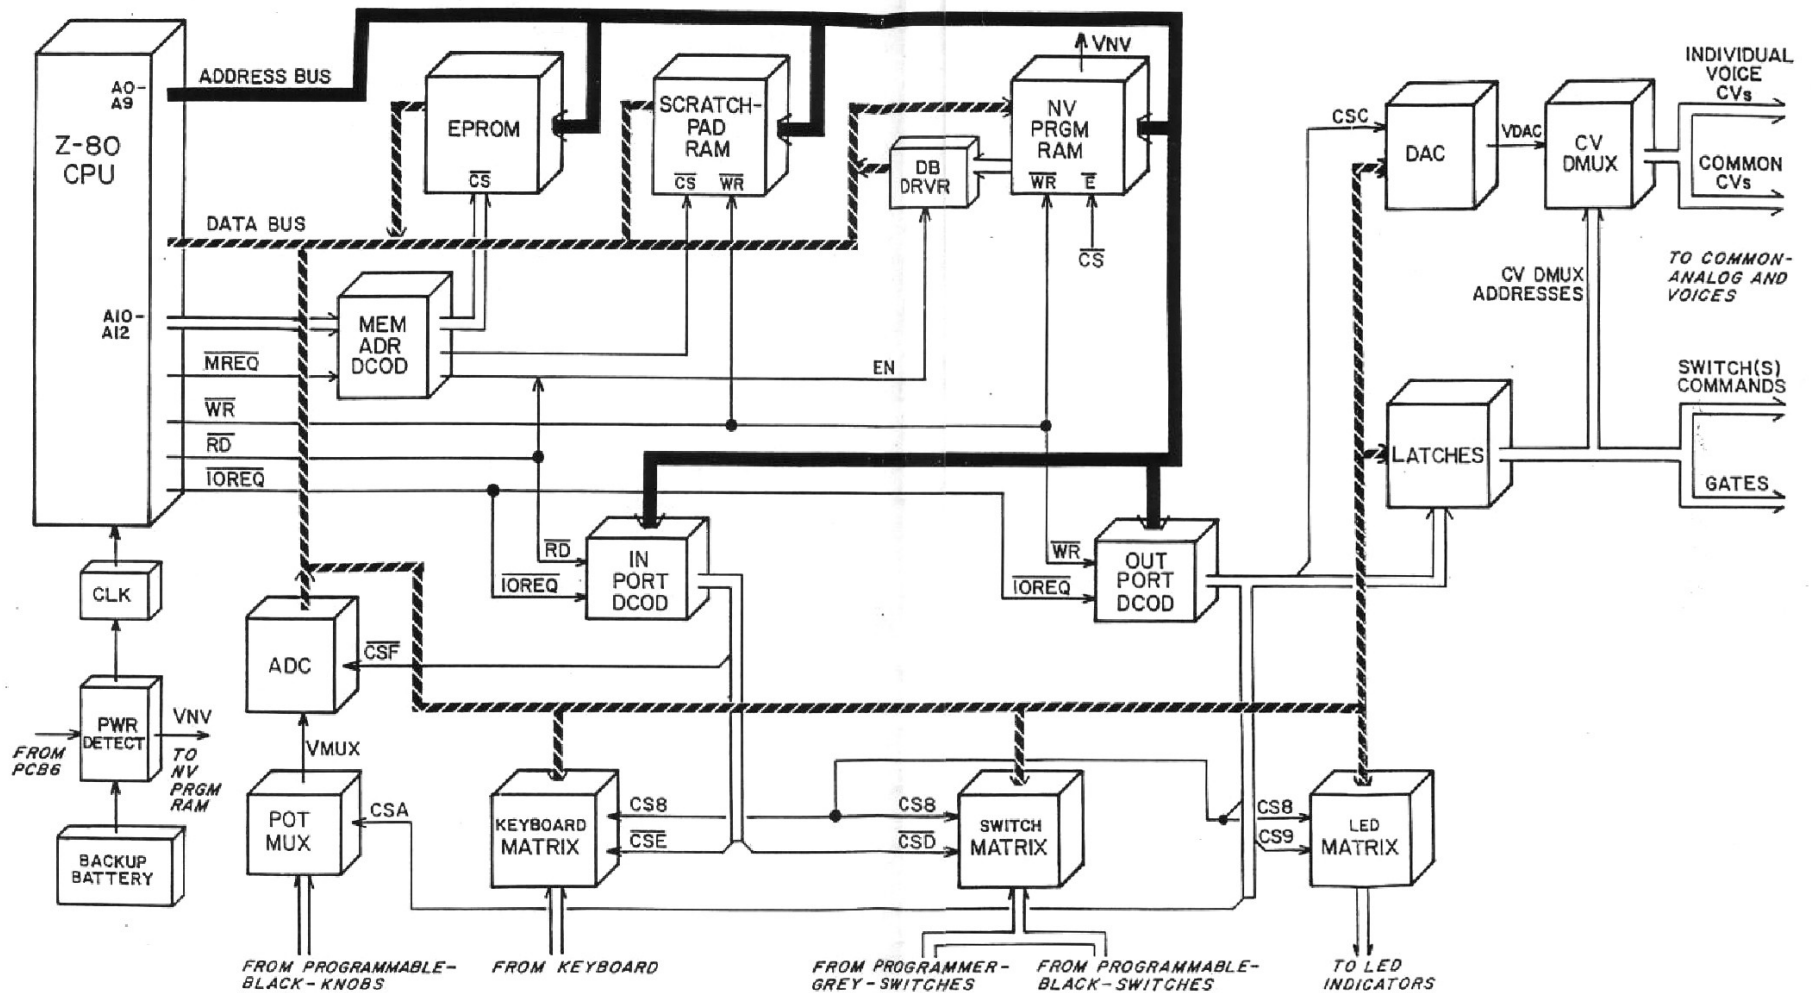

Figure 2-6
Figure 2-6 fills out the main elements of the microcomputer system and its input and output (I/O) circuitry. If you are unfamiliar with microcomputers you might find it helpful to focus on the DATA BUS (DB). Physically, this is a set of eight parallel wires carrying digital signals between the Z-80 central processor unit (CPU), memory (PROM, RAM), and (I/O) devices.